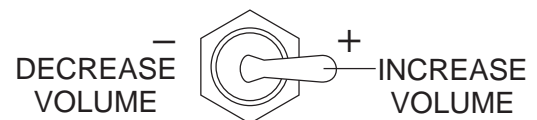

Figure 29. Volume Control Switch
2. Holding the **volume control switch** (Figure 29) to the right will increase pumping volume to approximately 10 strokes per minute. Holding the volume control switch to the left will decrease pumping volume.